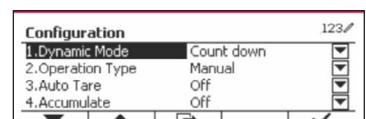

Figure 77
- Press the button corresponding to the  icon to enter Configuration Menu. (See Figure 77)